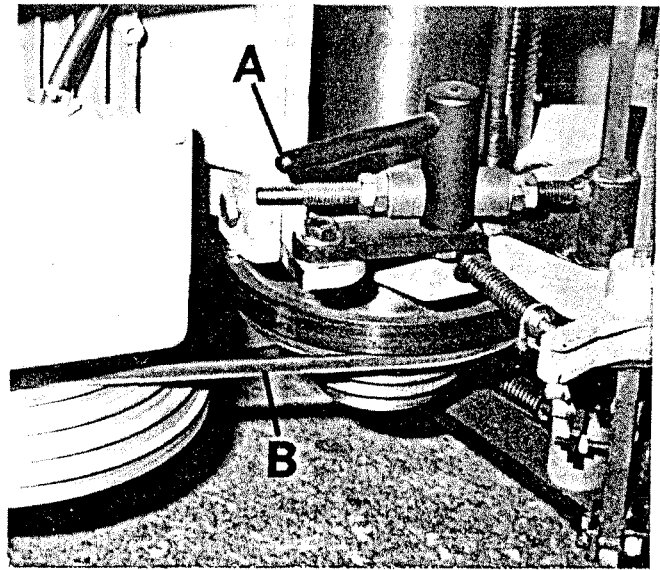

FIG. 4.
4. Release belt tension by pulling lever "A", FIG.4.
6. Re-tension belt by pushing lever "A", FIG.4, forward.